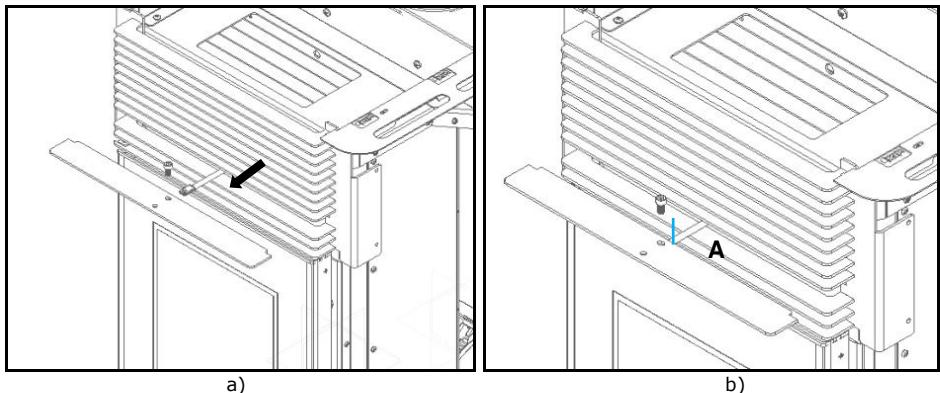

Figure 93 – Registry pad grip
c) Then fit the lower holes of the side covers (Figure 93-a) into the guides at the bottom of the machine (Figure 93-b).